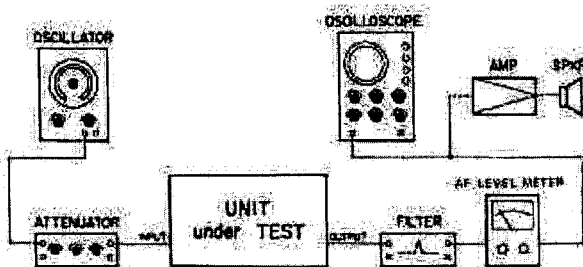

Fig. 9-5-13. Erase Ratio Test Set-Up
1. Connect test equipment to the tape deck as shown in Fig. 9-5-13. The filter to be used should be a 1 kHz bandpass filter.